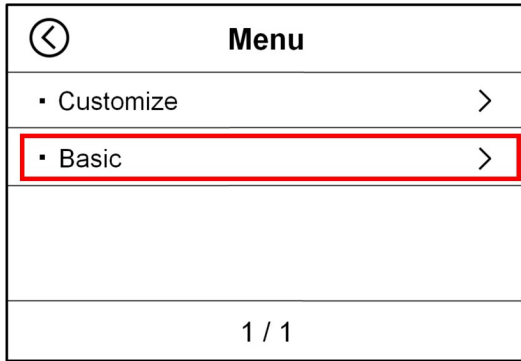
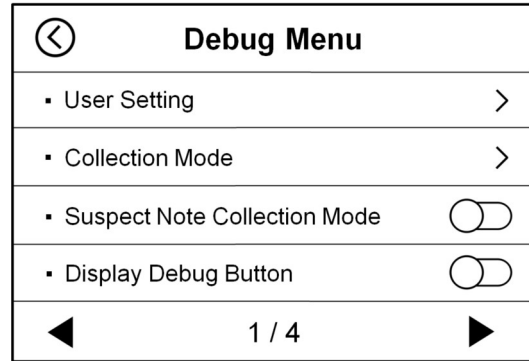
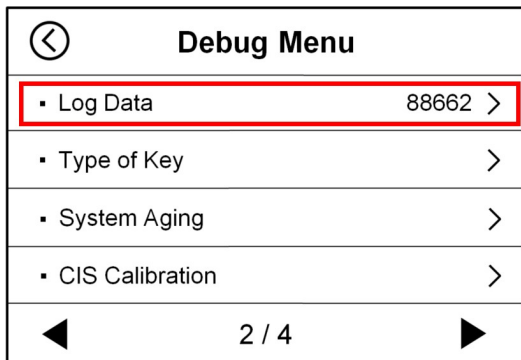
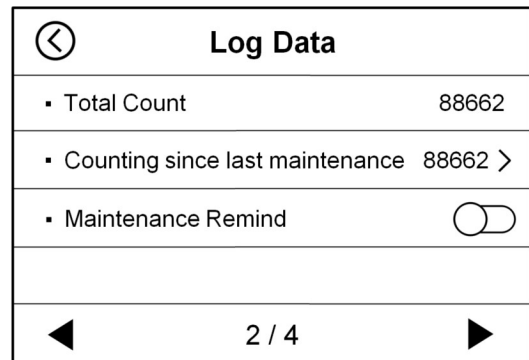

Figure 38
Figure 67
Figure 68
Figure 69
1) In the main interface of the machine, press the "MENU" button on the right to enter the "MENU" interface shown in Figure 38 below. Press the "MENU" key on the right side twice in succession to enter the "Debug Menu" interface shown in Figure 67 below.
2) In the interface of Figure 67, touch the "▶" key in the lower right corner of the screen to adjust to the second page shown in Figure 68 below. Then touch the "Log Data" option to enter the "Log Data" interface shown in Figure 69.